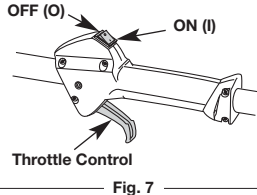

Fig. 7
**NOTE:** There is no need to turn the unit on. The On/Off Stop Control is in the ON (I) position at all times (Fig. 7).
2. Press and hold the On/Off Stop Control switch in the OFF (O) position until the unit comes to a complete stop (Fig. 7).